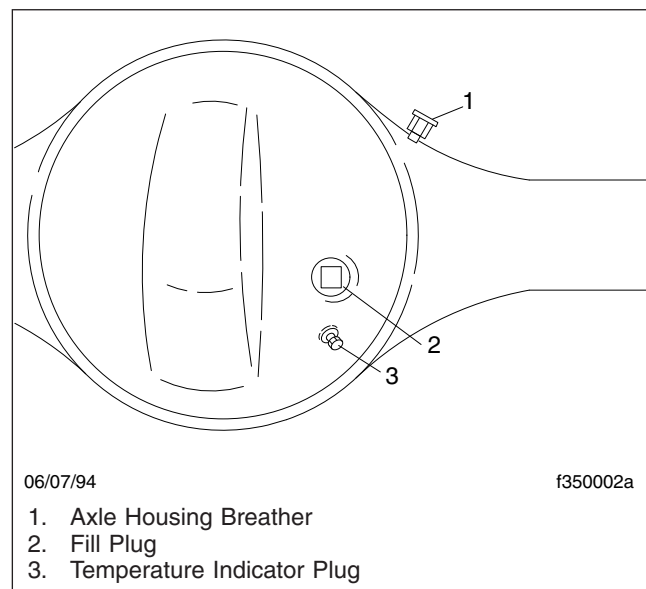

Fig. 8, Dana Spicer Axle Housing Breather
3. Clean the oil fill plug and the area surrounding it; see Fig. 8. Remove the plug from the fill hole (or standpipe, if installed in the oil fill hole).
6. Check the axle housing breather. Make sure that it is unclogged and free from corrosion. See **Fig. 8**. If the breather is plugged or damaged, clean or replace it as needed.